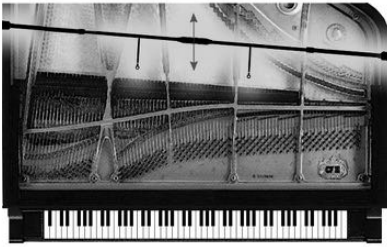
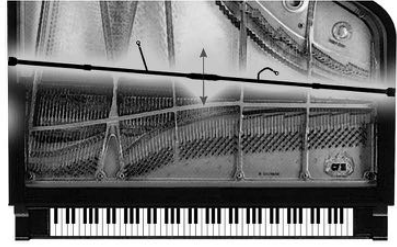

Figure 6. Facing the Mic Heads Towards the Dampers
Figure 7. Facing the Mic Heads Away From the Dampers
4. The PianoMic™ can be placed inside the piano with the microphone heads either facing the dampers (*Figure 6*) or facing away from the dampers (*Figure 7*). For optimum results, the PianoMic™ System should be placed in the piano with the microphone heads positioned two to three inches away from the dampers. How you place the PianoMic™ System in the piano will depend upon the piano, its size and how it is made. This will govern whether the microphone heads can be faced toward or faced away from the dampers. It is best to position the PianoMic™ System so that the support bracket does not rest on the curved part of the piano case.